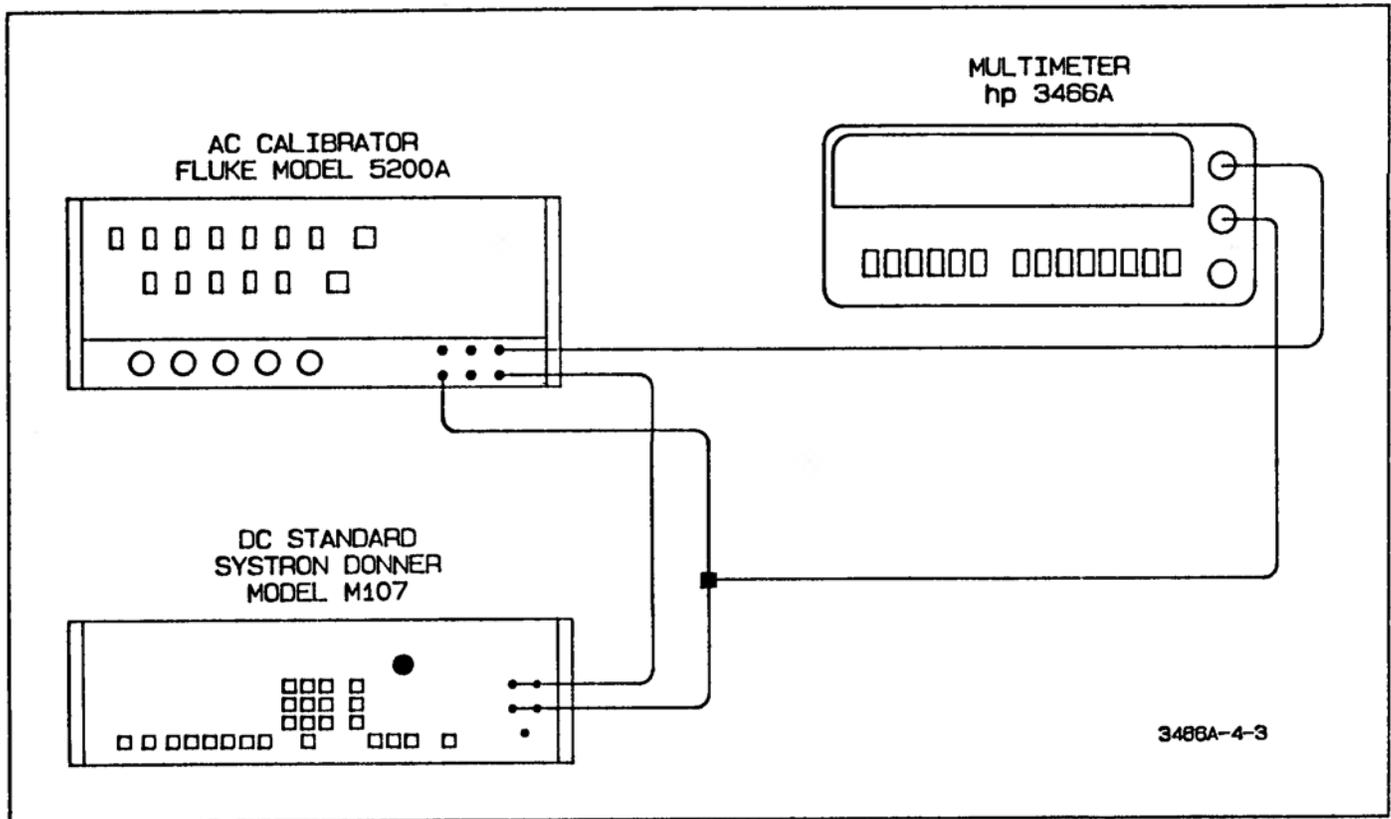

Figure 4-3. True RMS Voltmeter Accuracy Test
- c. Connect the AC Calibrator and DC Standard to the 3466A as shown in Figure 4-3.